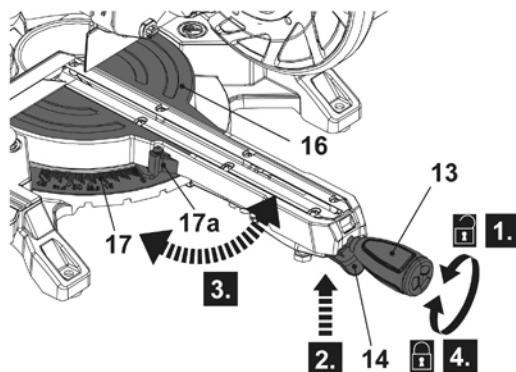

Fig. 6
- > Turn the turntable locking handle (13) anti-clockwise to loosen it (Fig. 6, step 1).
- > Squeeze the mitre angle adjustment lever (14) upwards and hold it in position (step 2).
- > Hold the turntable locking handle and rotate the turntable (16) until the mitre angle pointer (17a) aligns with the required angle on the mitre scale (17) (step 3).
- > Tighten the turntable locking handle (13) afterward (step 4).